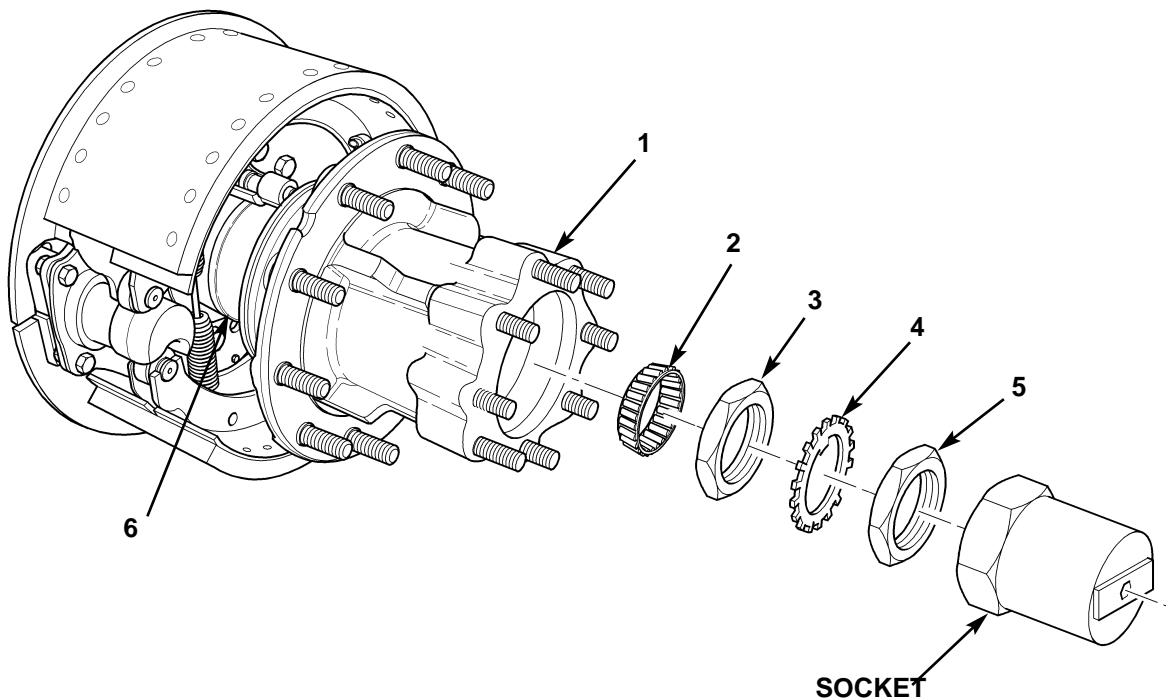

Figure 16. Installing Rear Wheel Hub.
23. Fill cavity in rear hub (figure 16, item 1) with grease, and carefully position hub (figure 16, item 1) on axle housing spindle (figure 16, item 6).
24. Apply grease to outer bearing cone (figure 16, item 2), and position bearing cone (figure 16, item 2) against outer cup in rear hub (figure 16, item 1).
25. Install inner nut (figure 16, item 3) on axle housing spindle (figure 16, item 6) with machined surface facing out. Using 4-1/8 in. (105 mm) socket, tighten inner nut (figure 16, item 3) to 50 lb-ft (68 N•m) while rotating hub (figure 16, item 1) back and forth. Then back off inner nut (figure 16, item 2) 1/4 to 1/3 turn. Rotate hub; hub should rotate freely.
26. Install lockwasher (figure 16, item 4) on axle housing spindle (figure 16, item 6).
27. Install outer nut (figure 16, item 5) on axle housing spindle (figure 16, item 6) with machined surface facing out. Using 4-1/8 in. (105 mm) socket, tighten outer nut (figure 16, item 5) to 250–275 lb-ft (339–373 N•m). Rotate hub; hub should rotate freely.
28. Bend one tab on lockwasher (figure 16, item 4) against each flat on outer nut (figure 16, item 5).